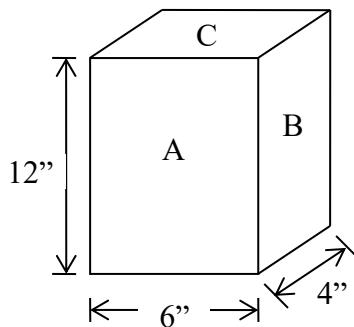

Fig 1-6: Problem 4
4. On which face of the wooden block in Figure 1-6, will you have to exert the least amount of force to overturn it? Why?